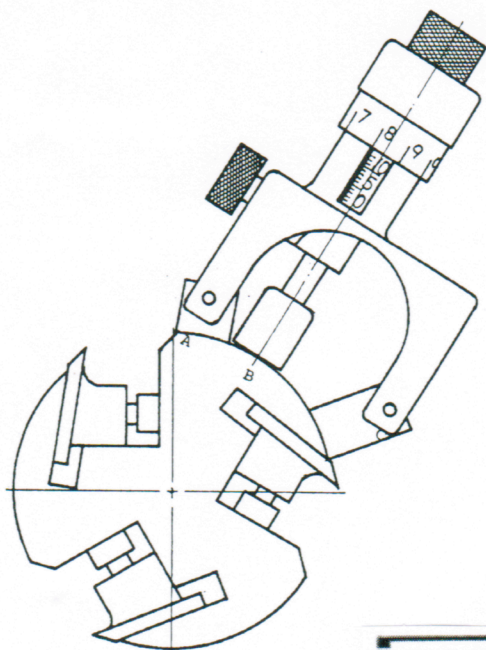

Fig.1
1. Refer to Figure 1. The jigs must be indexed to your cutter head before setting knives to a known height. To index the jigs, set the jigs on the cutter head as in Figure 1, making sure the jig bases (A & C, Figure 1) are not touching the knives and are resting on the cutter head. Screw the micrometer adjuster (Part 1, Figure 1) down (clockwise) until the magnetic head (B) touches the cutter head. Read the jigs red and white scales and record these two numbers.